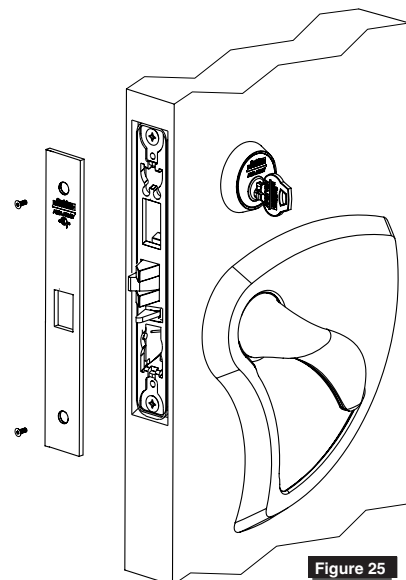

Figure 25
- Install lock front using two front screws. (Figure 25)